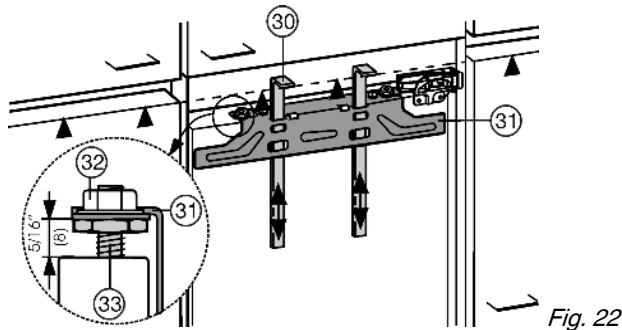

Fig. 22
The fitting aids Fig. 22 (30) are required for both doors. You must therefore fit the unit doors one after the other.
- ▶ Raise the fitting aids Fig. 22 (30) to the unit door height. Bottom stop edge ▲ of fitting aid = top edge of unit door to be fitted.